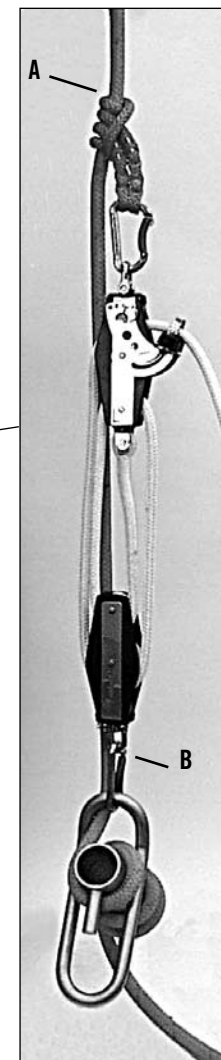

FIG. 6
6. (FIG 6) To use the Fiddle block set first attach the PRUSIK to the line to be tensioned. Next attach the lower block to a secure anchor point. You are now ready to pull tension on the exiting line being careful not to exceed the block or any other object in the systems strength capacity. Each stride of pull can be held in place with the cleat of the upper Fiddle block but keep in mind that this cleat is the weakest part of the Fiddle block set. To release your line from the cleat you can flip it out with a crisp arm-whipping action but **WARNING!!** Keep your hands 3 or more feet back from the cleat to avoid having fingers sucked into this potentially dangerous area.
7. (FIG. 6) The Fiddle block set is best stored by folding the four parts of line into a neat bundle, tying that with an overhand knot and stuffing it into a clean dry bag.